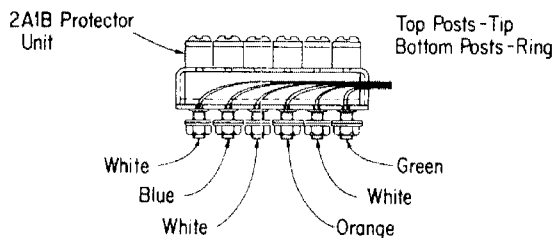

Fig. 3 – Color Code of 3A2B-3 (F-53458) Terminal Block
2.04 If cable protection is required, remove the P-18A782 Terminal Block and substitute a 3A2B-3 Terminal Block (3 pair). The 3A2B-3 Terminal Block replaces the F-53458 Terminal Block. See Fig. 3.